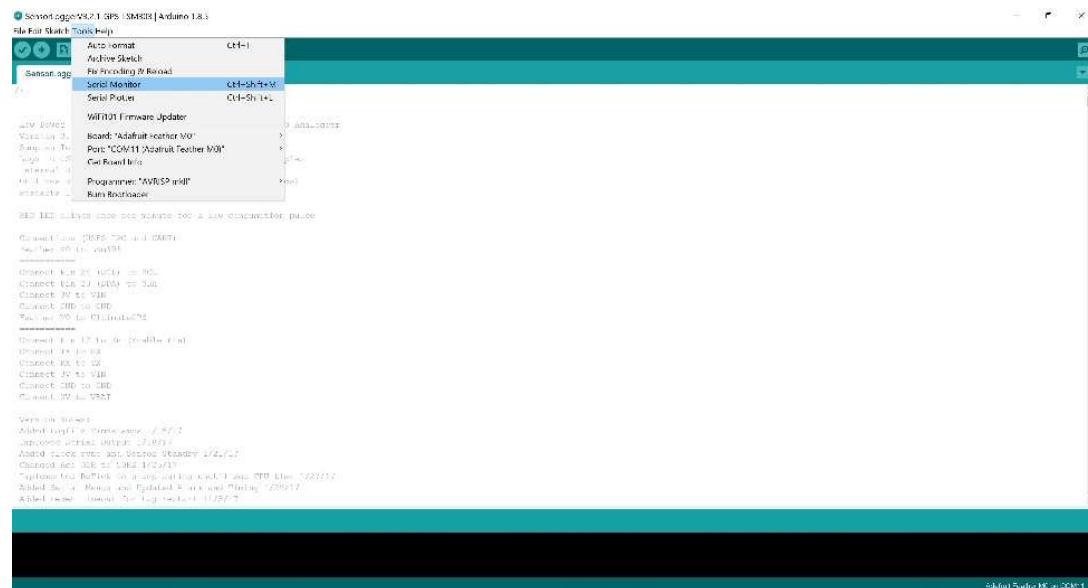

Fig. B4. Open serial monitor programming menu.
6. Immediately after progress bar says “Done Uploading” (bottom left, orange writing on black area of program screen), go to Tools → Serial Monitor (Fig. B4)